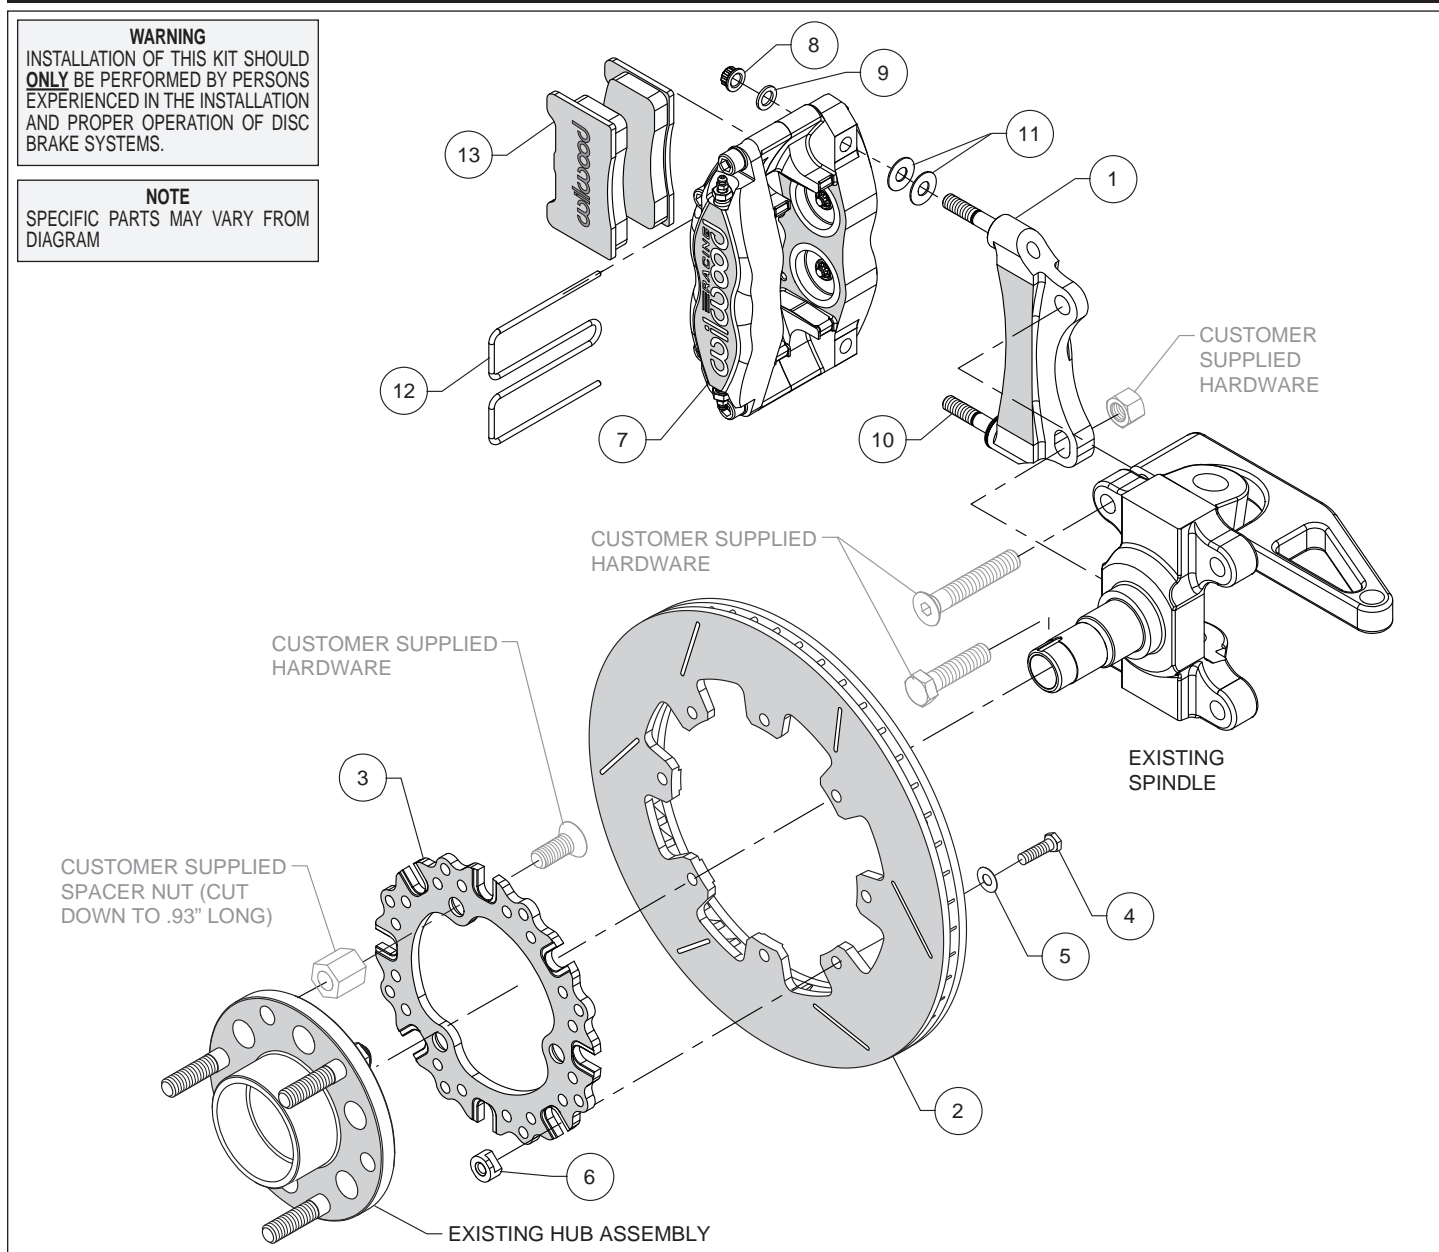

Figure 1. Typical Installation Configuration
### Assembly Instructions (numbers in parenthesis refer to the parts list and Figure 1 on the preceding pages):
- The caliper mount bracket (1) should initially be installed with clean, dry threads on the mounting bolts. Orient the bracket as shown in Figure 1, and install using customer supplied hardware. Temporarily tighten the mounting bolts. **NOTE: The bracket must fit squarely against the mount bosses on the upright.** Inspect for interference from casting irregularities, machining ridges, burrs, etc. Remove the bracket mounting bolts one at a time, apply red *Loctite*® 271 to the threads, and torque to fastener supplier's specification.
- Orient the rotor (2) and rotor adapter (3), as shown in Figure 1, and attach using bolts (4), washers (5) and t-nuts (6), Figure 1. Using an alternating sequence, apply red *Loctite*® 271 to the bolt threads and torque to 220 **in-lbs**. Please refer to Wilwood's data sheet DS-669 (available at [www.wilwood.com/Pdf/DataSheets/ds669.pdf](http://www.wilwood.com/Pdf/DataSheets/ds669.pdf)) for complete t-nut bolt kit installation instructions. **NOTE: Rotor adapter may be fix mounted to rotor (instead of floating mount) using customer supplied hardware.**
- Install the rotor/adapter assembly to the existing hub using customer supplied hardware, Figure 1. **NOTE: Shorten three spacer nuts to .93" long to properly position the rotor in the caliper.** Slide the hub assembly onto the existing spindle and secure using customer supplied hardware.
- Lubricate the caliper mounting studs (10) with lightweight oil. Initially place two .035" thick shims (11) on each stud between the caliper and the bracket, as shown in Figure 1. Mount the caliper (7) onto the bracket (1) using lock nuts (8) and washers (9), Figure 1.
- Remove the pad clip retainer (12) from the caliper (7). Insert the disc brake pads (13) into the caliper, with the friction material facing the rotor (2), as shown in Figure 1. Check that the top of the brake pad is flush with the outside diameter of the rotor. If not, adjust by adding or subtracting shims (11) between the caliper and the bracket. After the caliper pad height is set, torque caliper lock nuts (8) to 30 ft-lb. Secure the pads in place with the pad clip retainer.